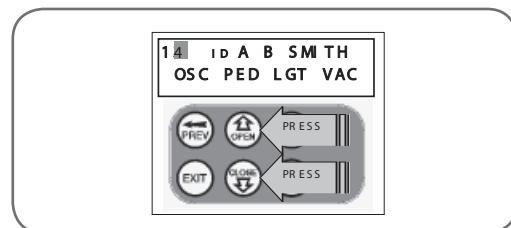

fig 28
2. Press UP or DOWN to select new Store No (**Fig. 28**).